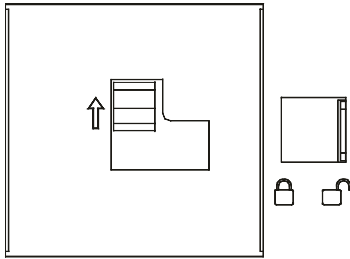

Fig. 9-2
- 3) Set the maintenance switch to ON position (see Fig. 9-2).